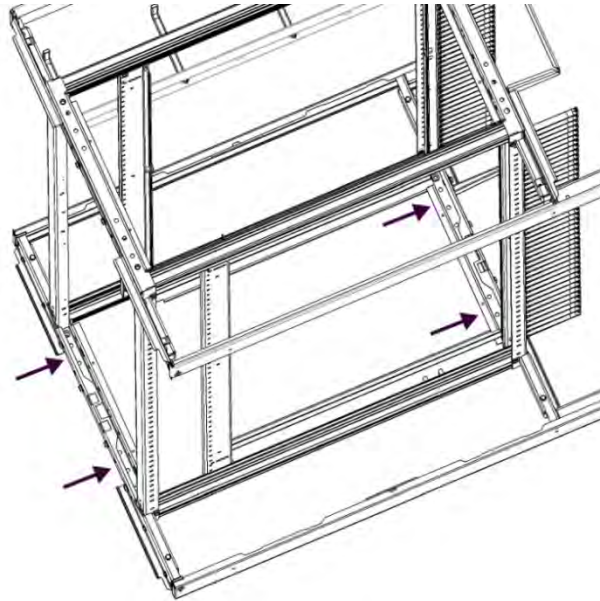

Fig. 2.3.1c Frame bolt-down hole locations
- If attaching the frame directly to the floor (without leveling feet), use the holes in the frame shown in Figure 2.3.1c below.